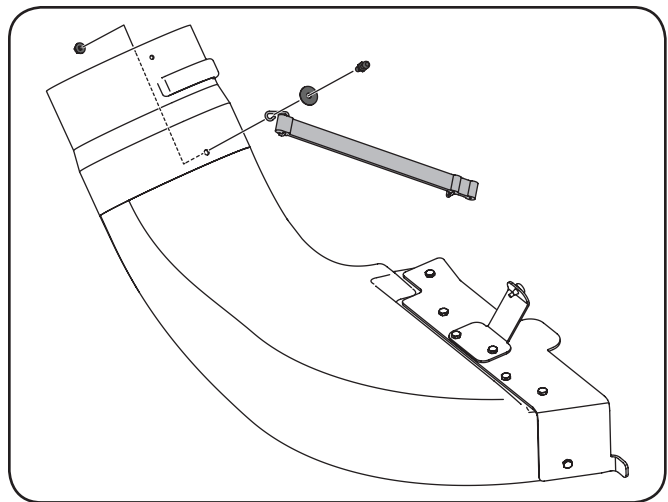

Figure 4-16
5. Install the boot strap, 723-0476, from hardware pack 689-00340, with the metal wire ends, onto the discharge chute elbow using a 711-04069 deck pin and 736-3092 flat washer from the same hardware pack (689-00340). Secure the strap using a 712-3027 lock nut from hardware pack 689-00337. See Figure 4-16.